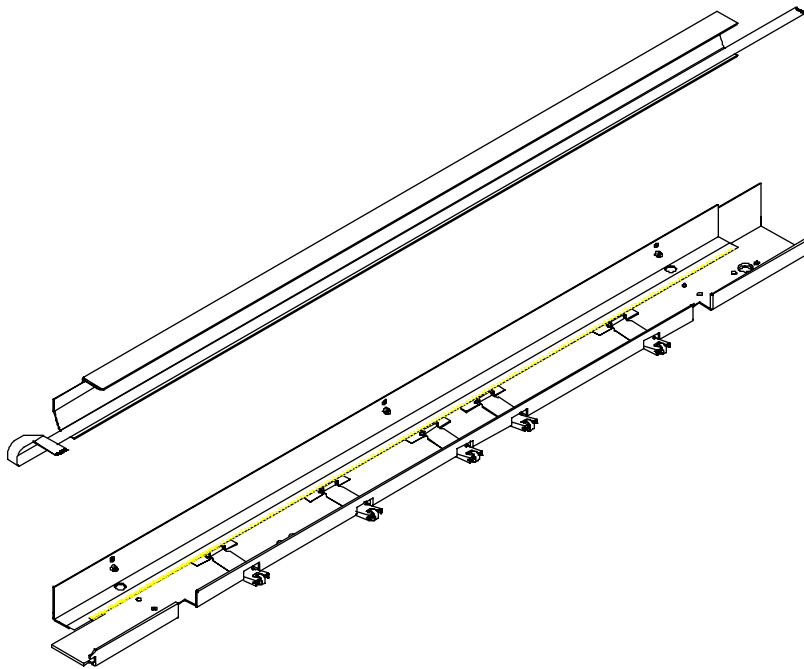

Figure 5-10. Trailing Cable Assembly Removal/Installation.
8. Using a #2 Phillips screwdriver, remove the three screws and washers securing the Trailing Cable Cover Assembly to the C-Bracket Assembly. See Figure 5-10.